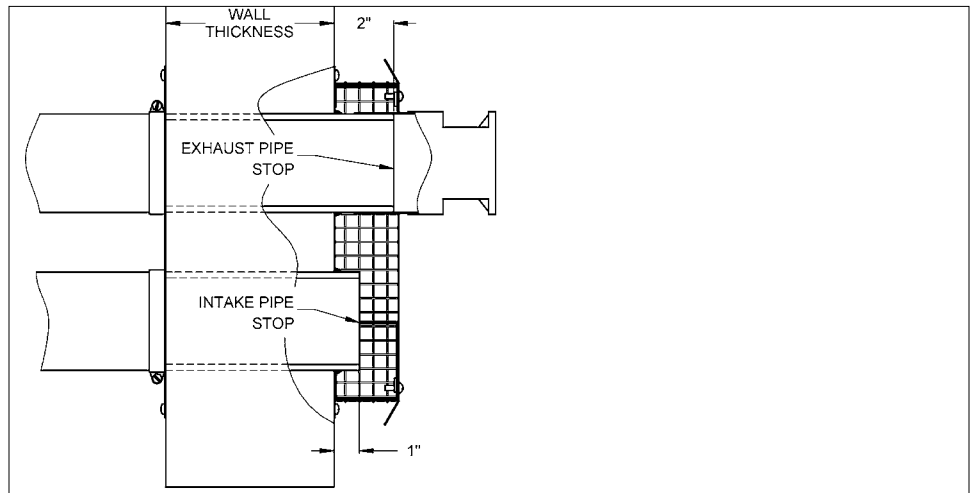

Figure 16: Pipes extend completely through the wall (Vertical orientation shown).
- The SST vent/air connections fit Sched. 40 two inch or three inch PVC/CPVC pipe. PPs pipe cannot be used with the SST. The pipes must extend completely through the wall as shown in Figure 16. The SST is an external fixture, and is not part of the sealed vent system that runs inside the building.